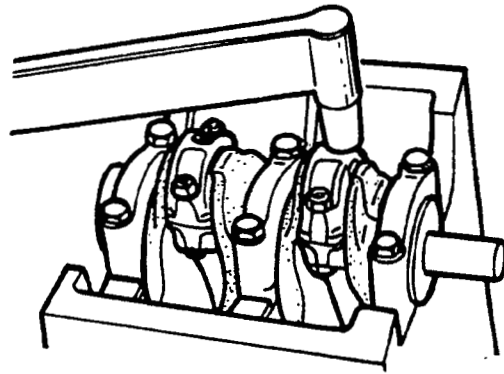

FIGURE 9-53. TIGHTENING CONNECTING ROD GAP
9. Tighten the cap bolts to specified torque (Figures 9-53 and 9-44). Check bearing free movement. If there is any binding, find cause and correct before proceeding.